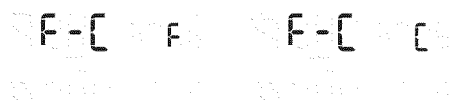

Figure 12: F or C selection
1. Press **user pref** key until **F-C F** appears in display (Figure 12).